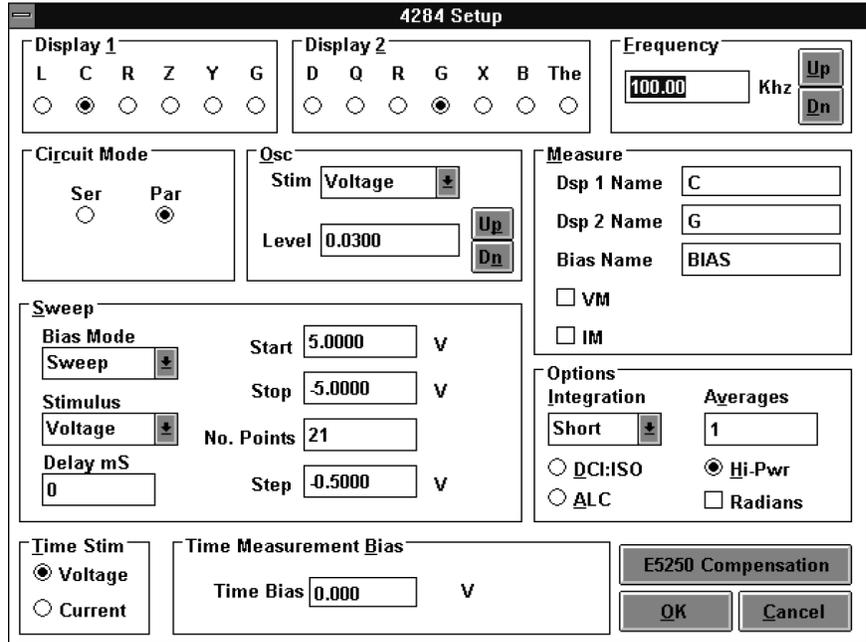

Figure 10. Agilent 4284A Setup dialog box
Click CMH icon to open the Agilent 4284A Setup dialog box, which is shown in Figure 10. In this example, substrate voltage is swept from +5 V to -5 V with step -0.5 V. Note that we apply reverse bias to the substrate. In this dialog box, you can specify oscillation level, measurement frequency and integration time too. These are very important settings for accurate measurement, which is discussed on page 7. Note that if you enable capacitance compensation (next step), parallel circuit mode is used, so capacitance
To minimize the error, use well isolated wafer chuck and make the measurement cables shorter. Using lower frequency is most effective. If you use ICS, set the frequency value in 4284 Setup dialog box shown in Figure 10.
–Use longer integration time to average measurement errors. Using higher test signal (oscillation) level is also effective because signal-noise ratio will be higher. Set them appropriately in 4284A Setup dialog box (Figure 10) in ICS.